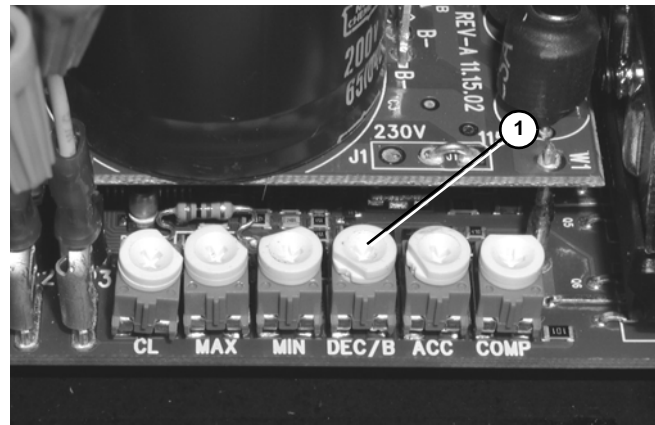

Figure 11
Deceleration (Figure 11, item 1)